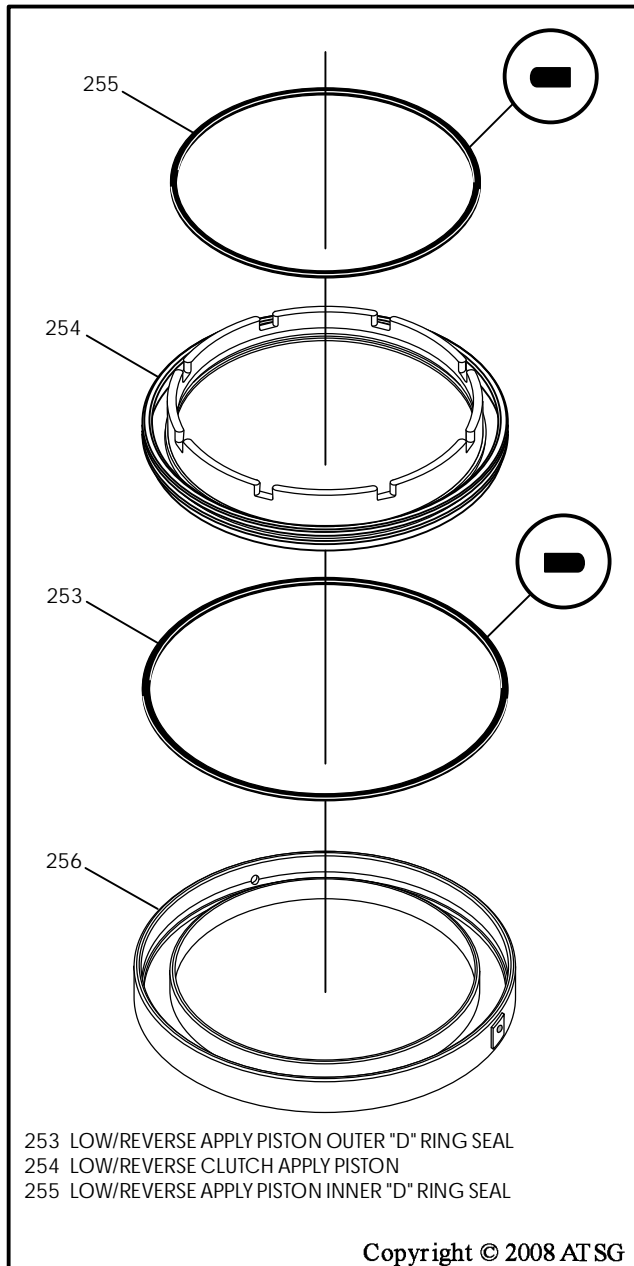

Figure 123
6. Place the low and reverse clutch retainer on a flat work surface, as shown in Figure 123.
7. Install the inner "D" ring seal onto the low and reverse piston, as shown in Figure 123.
8. Install the outer "D" ring seal onto the low and reverse piston, as shown in Figure 123.
9. Lubricate both of the seals with a small amount of Trans-Jel®, and install the piston assembly into the low and reverse retainer, as shown in Figure 123.